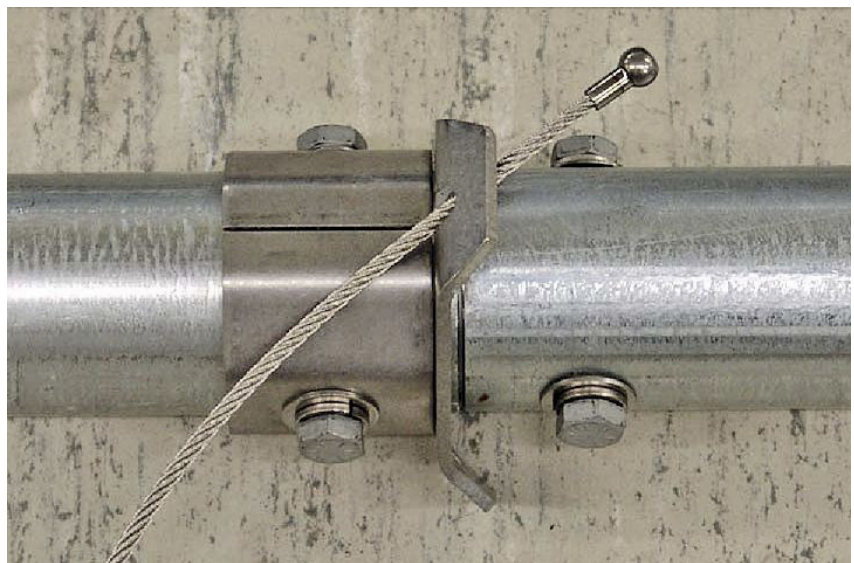

FIGURE 3-16. Mast Section 5 and guy ring/collar assembly
Step 14: Place the guy cable ball ends into the guy ring, and then slide the guy ring onto the bottom end of Section 5 oriented as shown in FIGURE 3-16. Align the holes in Section 4 and Section 5, and reassemble the collars.